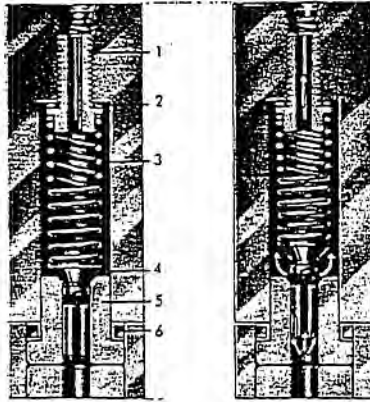

Fig 07-10/11
A pressure valve is fitted at the top of each of the two pump elements (Fig. 07-10/11). The stem of the valve (4) is carried in the valve holder and is loaded by the pressure spring (3) which is adjusted by means of the adjusting screw (1) and the shims (2). During the power stroke of the pump plunger the valve is lifted from its seat so that the fuel can flow into the pressure pipe, the amount being equal to that delivered by the plunger.